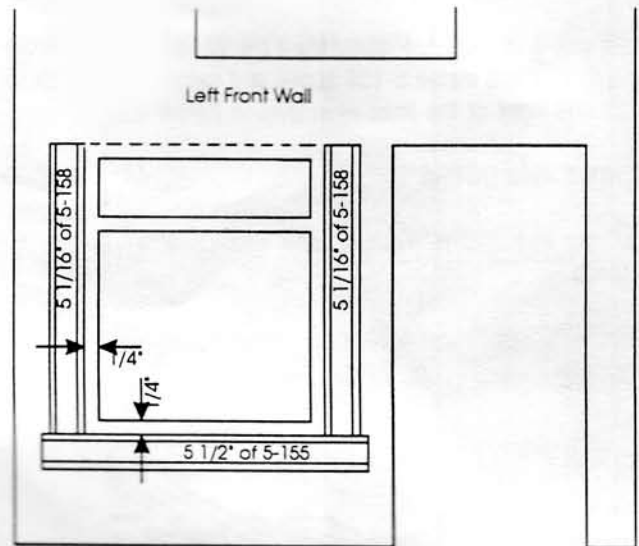

Figure 28
b. Measure a 1/4" reveal around the outside of the window opening in the Left Front Wall. Cut and glue two 5 1/16" lengths of 5-158 and one 5 1/2" piece of 5-155. See Figure 28.